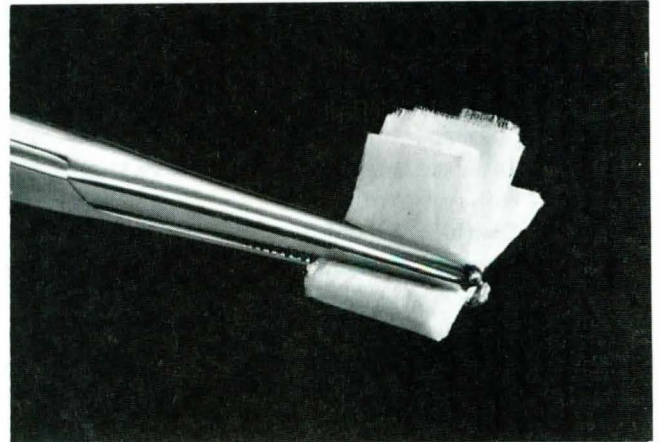

FIGURE 5.3: Lens Tissue Folded for Prism Cleaning
- 4 Fold a piece of lens tissue into a pad about 1 cm on a side and clamp it in a hemostat (see Figure 5.3). Saturate the pad with acetone, shake off the excess, resaturate, and shake again.